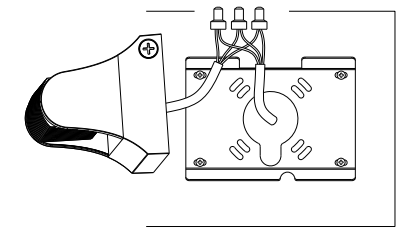

Figure 4
4. Make wiring connection and go through isolation treatment. (Figure 4)